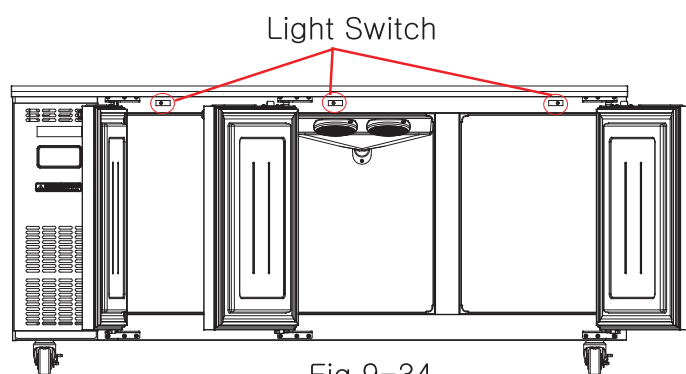

Fig 9-34
1. Check the switches for repair. (Fig 9-34)